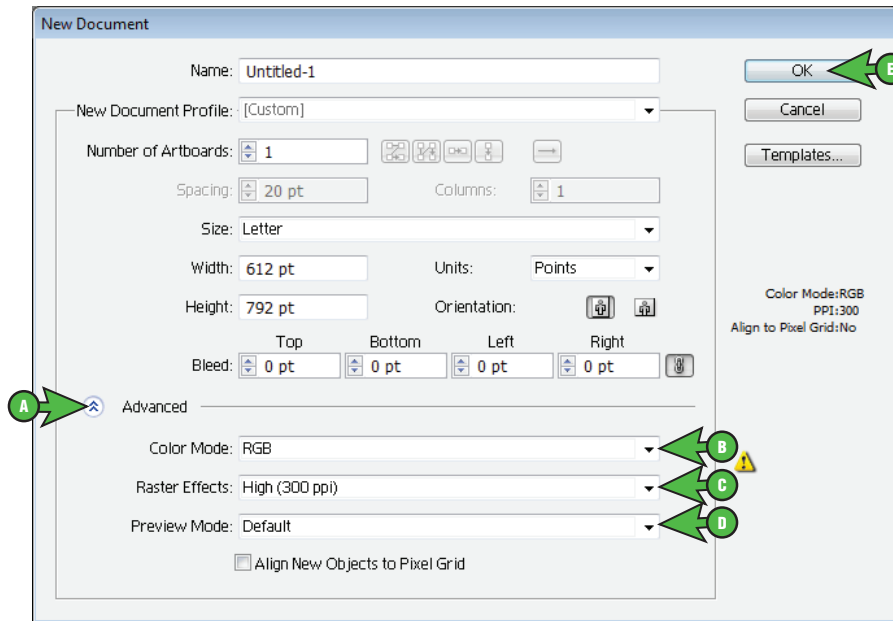

FIGURE 3
- At the top of the application click **File > New...** (Ctrl+N). This will open the New Document window (see *FIGURE 3*). Match your settings to the ones show below: